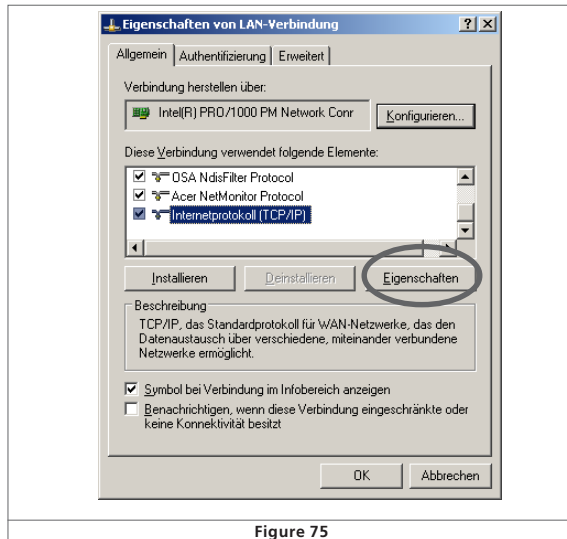

Figure 75
- Double click with the mouse on your connection. The following dialogue window will open (see figure 75).